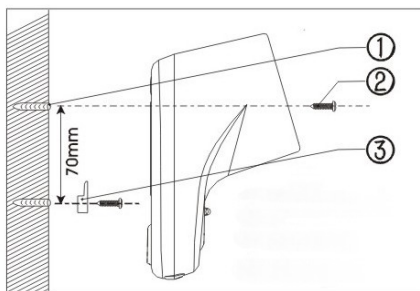

Fig. 2
- ❶ Mark and drill 2 holes vertically underneath each other, 70 mm apart, as shown in Fig. 2. Use 6 mm drill. Insert the enclosed dowels into the holes and fix the plastic hanger (marked 3 on Fig. 2) in the lower screw hole.